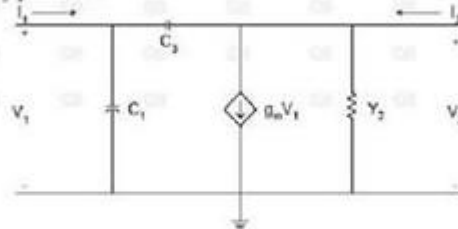

Figure 2
- 2.a) The following Figure 2 shows the simplified model of a field effect transistor. Find its y parameters.